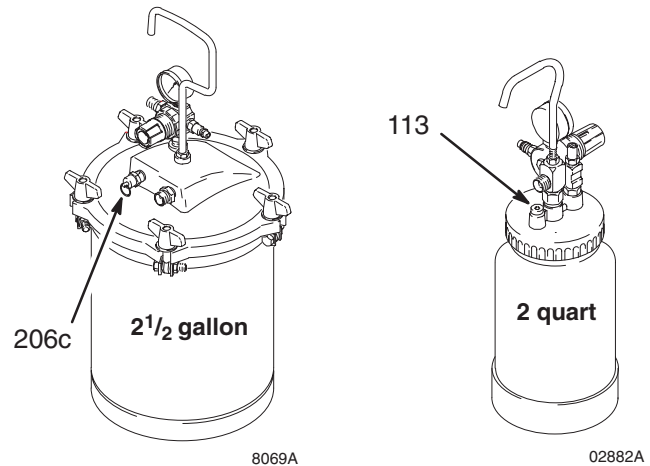

Fig. 1
2. If using remote pressure pot, relieve pressure by following these steps (see Fig. 1):